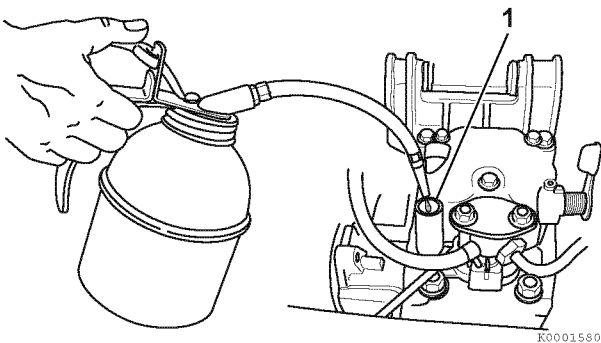

Figure 9
2. Add 2 cc of engine oil to the oil port (1, **Figure 9**).